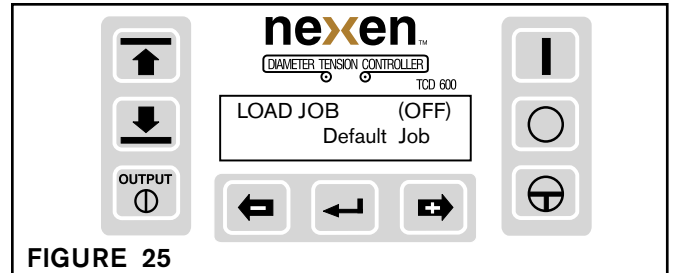

FIGURE 25
- You can then choose to load either the default job or any of 5 previously saved jobs. Press the plus or minus button to select the desired job (See Figure 25), then press Enter; the display will confirm that the selected job is loaded, then it will return to the Set Job Mode.